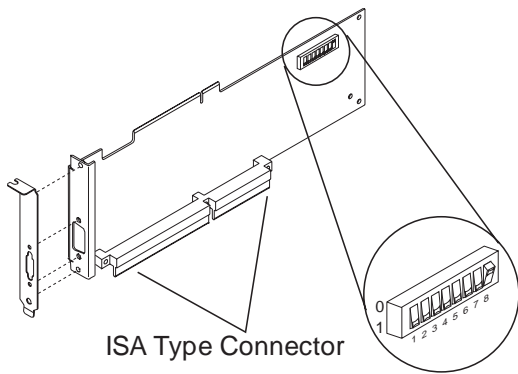

Figure 1. Preparing the Adapter Card for an ISA Based Computer
The switch positions shown in Figure 1 represent the value 00000001, that is, switch 8 has been set to value 1 (one), the others are set to value 0 (zero).
- The settings shown in Figure 1 apply to most computer configurations.